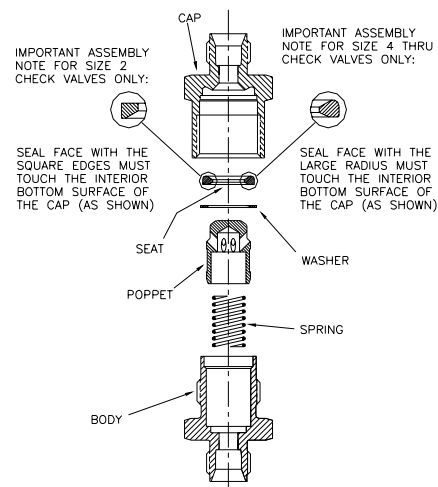

Figure 2: C Series Check Valve with PTFE Seats Exploded View
NOTE: Correct orientation of the Seal per Figure 2 is required for proper Valve operation.
3. While holding the Body upright, place the new Spring in the Body. Ensure the Spring is properly positioned in the pocket per Figure 2.